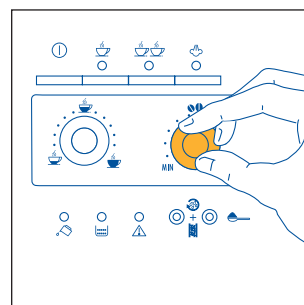
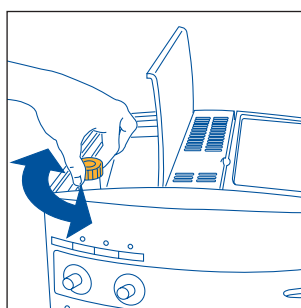

Fig.7
Fig. 17
- 2) Adjust the right-hand knob (Fig. 7) to set the desired taste of the coffee. Turning the knob clockwise increases the quantity of coffee beans that the machine will grind, and thus makes the taste of the coffee stronger. When using the machine for the first time, the correct position of the knob can be found by trial and error. Make sure not to turn it too far clockwise, otherwise the coffee will be delivered too slowly (in drops), above all when preparing two cups of coffee.
NOTE 1: : If the coffee is delivered a drop at a time or not at all, turn the grinding coarseness regulator (fig. 17) one click clockwise (see para. 6). Turn a click at a time until the coffee is delivered satisfactorily.
NOTE 2: If the coffee is delivered too fast and is not creamy enough, turn the right-hand knob (fig. 7) clockwise. Proceed by trial and error to find the correct position of the knob. Make sure not to turn the knob too far clockwise, otherwise the delivery may become too slow (in drops), above all when making two cups of coffee. If, after several coffees, the cream is still not satisfactory, also turn the grinding adjustment knob (Fig. 17) one click clockwise (see para. 6).
To resolve this problem, re-set the grinding coarseness on the coffee grinder by adjusting the knob (Fig. 17) one click anticlockwise (as described in chap. 6).
Nonetheless, after having made the first coffees, if delivery is too fast or too slow (in drops), the grinding coarseness must be adjusted using the knob (Fig.17) located inside the bean container. Turning one click (one number) clockwise achieves faster delivery of the coffee (without drops).